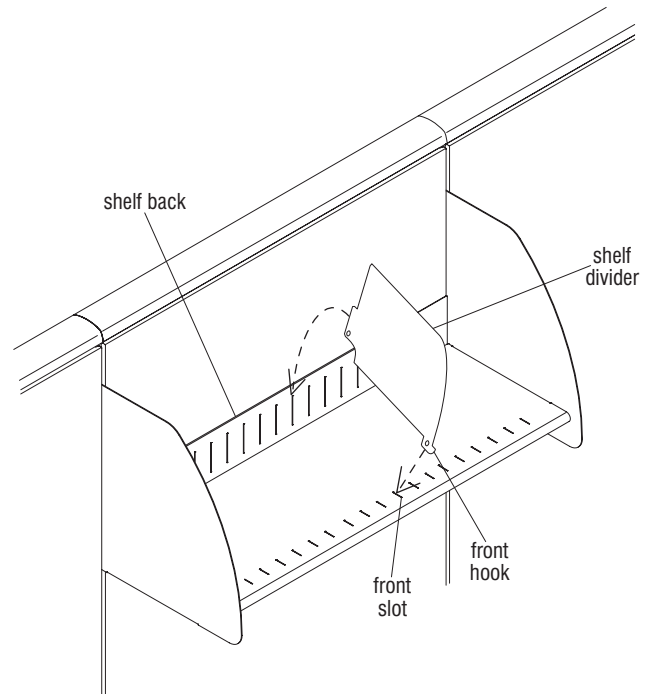

Figure 5
6. To install shelf divider (optional), first place front hook into slot of shelf bottom, then rotate rear of divider until tab snaps into vertical slot of shelf back. To remove divider, press lightly on shelf back to release rear tab and rotate out (Figure 5).